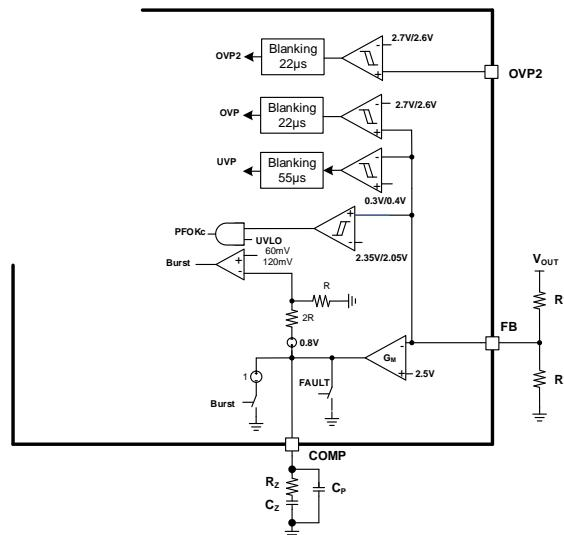

Figure 13: FB Functional Block
The boost PFC output voltage is sensed on FB, and is compared with the internal reference ( $V_{REF}$ , typically 2.5V) (see Figure 13 on page 19).  $R_{O1}$  is recommended to be  $10M\Omega$  to minimize power consumption.  $R_{O2}$  can be calculated with Equation (1):
Figure 13 shows that if the FB voltage ( $V_{FB}$ ) exceeds the OVP trigger threshold (typically 2.7V), the OVP comparator shuts down the output of the gate drive circuit after a blanking time ( $t_{BL\_OVP}$ ) of 22 $\mu$ s. Switching resumes when  $V_{FB}$  drops to 2.62V.
The second OVP comparator shuts down the output of the gate drive circuit after a blanking time of  $t_{BL\_OVP2}$  (typically 23 $\mu$ s), see Figure 13.